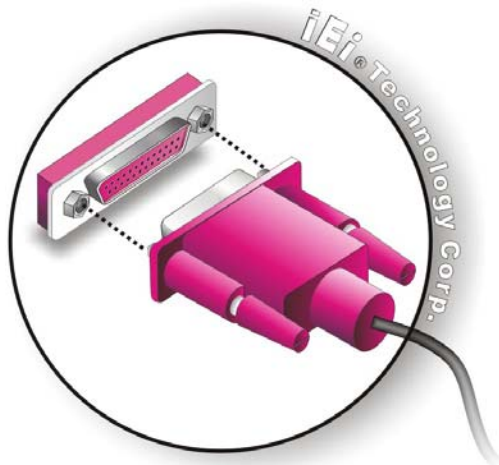

Figure 4-17: Connect the LPT Device
Step 5: Connect LPT device. Once the LPT interface connector is connected to the chassis, the LPT device can be connected to the LPT interface connector. See **Figure 4-17**